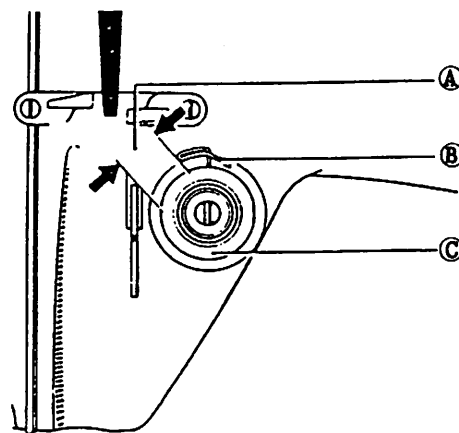

Fig. 9.18
9.13.2 Tie furnished hexagon key wrench (small) (D) to the thread (C) to hang the key wrench, as shown in Fig. 9.18